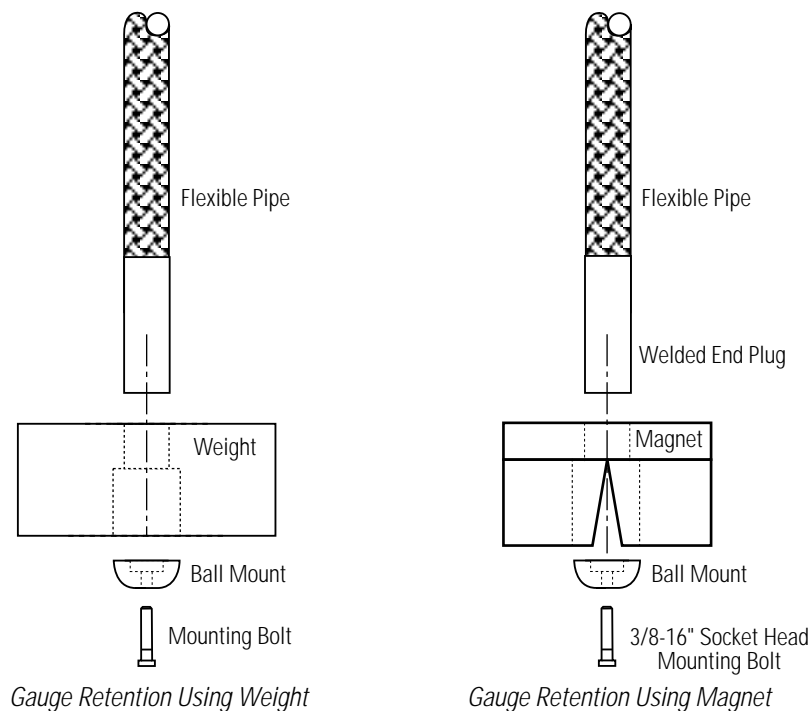

Figure 4.7 Bottom Fixing Hardware
4. Mount the weight or the magnet to the welded end plug section of the pipe (this is the bottom section of the pipe) using the supplied ball mount and mounting bolt. Securely tighten mounting bolt using 5/16 inch allen wrench. The ball mount can be reversed for applications with a sloped bottom tank. This method will allow the weight or magnet to swivel up to 15°. See Figure 4.7.